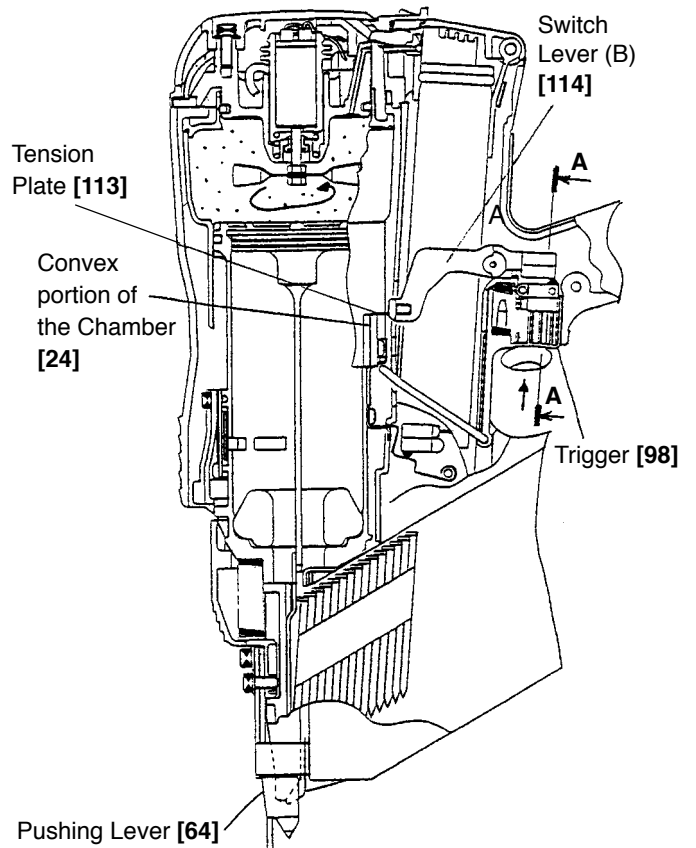

Fig. 9
The convex portion of the Chamber [24] pushes up the Tension Plate [113] and rotates when the Chamber [24] reaches the uppermost position. Therefore, the end of Switch Lever (B) [114] is moved toward the Trigger [98] (Fig. 9).